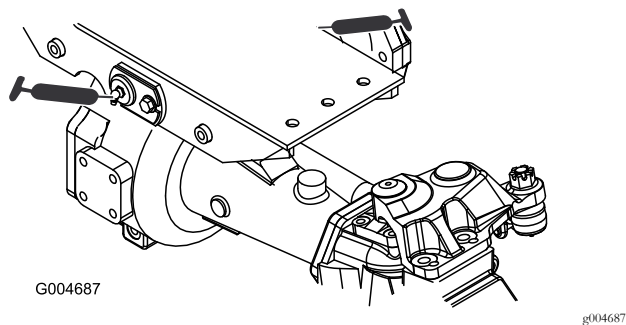

Figure 37
- Front and rear axle pivot bushings (2) (Figure 37)